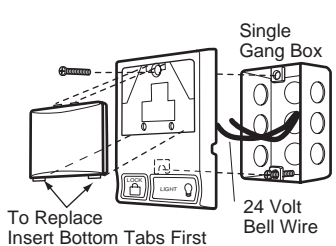

Figure 3 MULTI-FUNCTION DOOR CONTROL (BACK)
1. Strip 7/16" of insulation from one end of bell wire and connect to the two screw terminals on back of door control by color: white wire to 2 and white/red wire to the 1 (Figure 3).